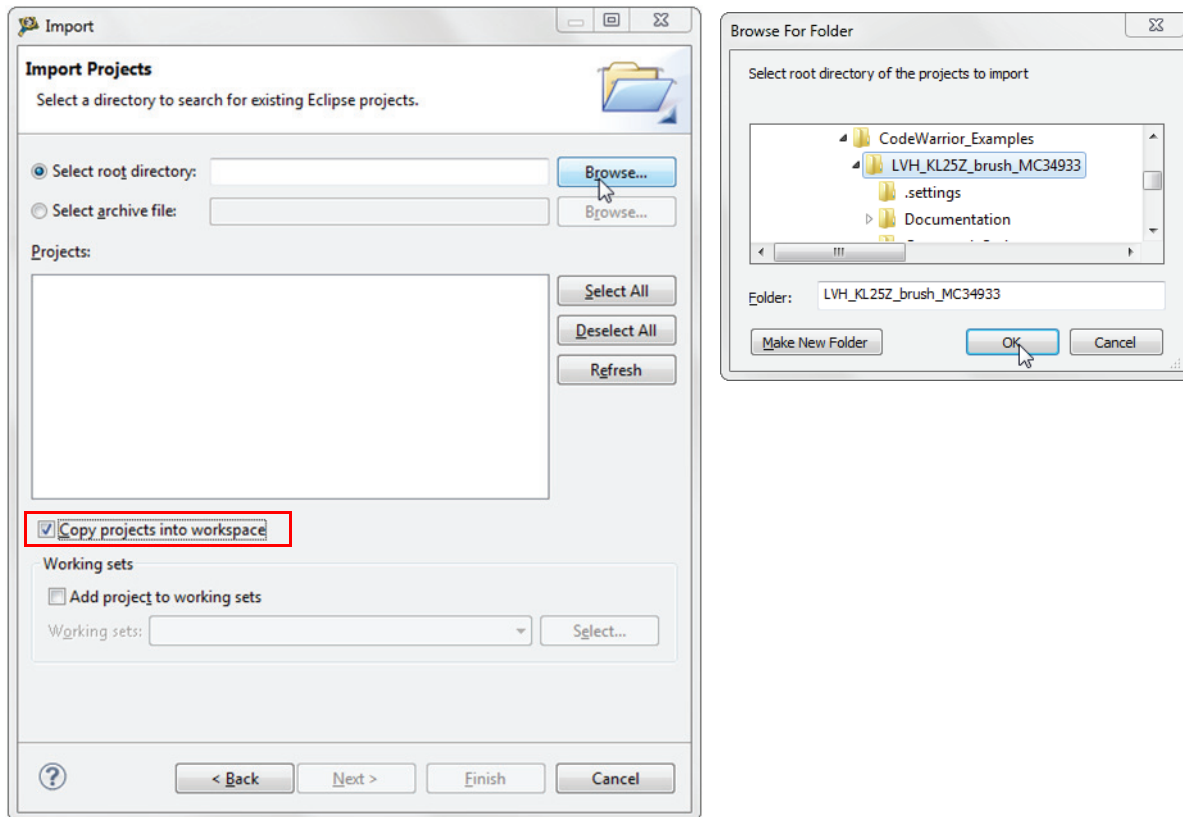

Figure 8. Example Project import
2. Locate the example in folder: `LVHBridge_PEx_SW\CodeWarrior_Examples` (see Figure 8, which shows `LVH_KL25Z_brush_MC34933` as the imported project). Then click **Finish**.